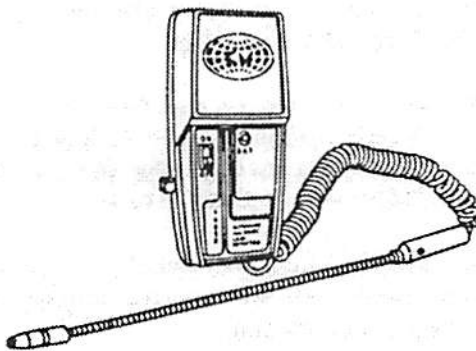

FIGURE 10
•You will need a bubble solution for checking leaks at the brazed joints or an electronic leak detector (fig. 10) that detects the presence of refrigerant vapor. These can also be used to check for gas leaks on your torch.